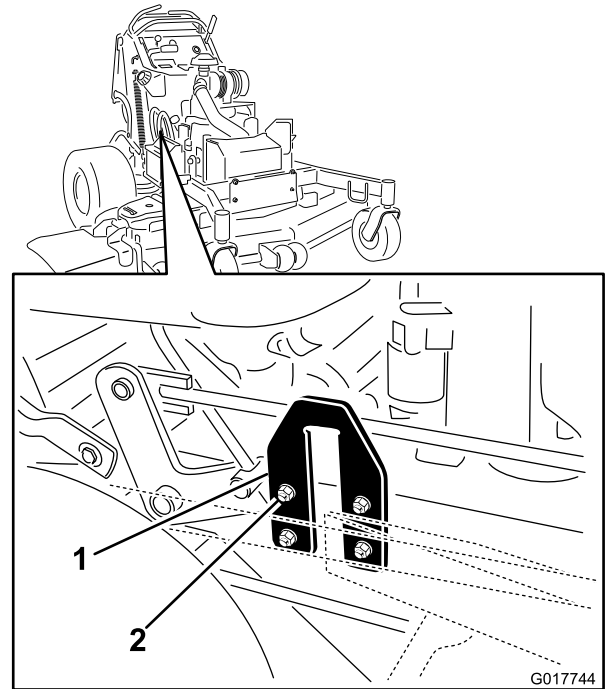

Figure 91
2. Locate the U-plates on the side of the engine deck (Figure 91).
3. Loosen the U-plate on one side and adjust it up or down to make the difference between measurements **B** and **C** no more than a 1/4 inch (6 mm) (Figure 91).